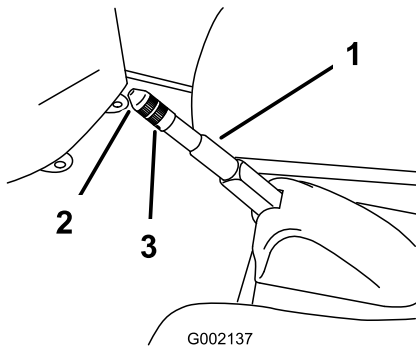

Figure 37
2. Loosen the set screw securing the knob to the parking brake lever (Figure 37).